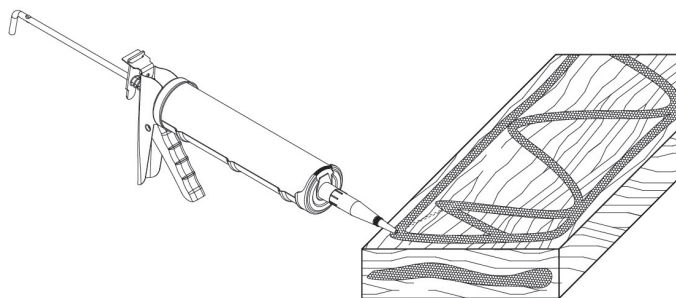

Fig. 3
- C. Prior to installation of the buck, apply a 3/8" bead of silicone on the face of the wood buck around the entire perimeter (see figure 3) This seal will be smashed to the masonry opening when the wood buck is applied to it.